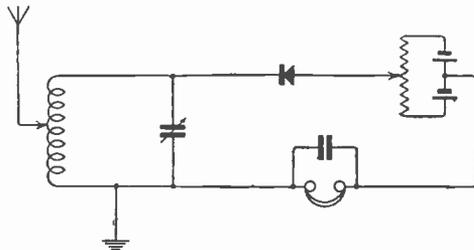

Fig. 3.
**"H.G."** (Sparkhill) asks (1) What results, if any, he will get with certain gear. (2) For a diagram of connections. (3) For a suitable aerial.
(1) You should get fair results from any near station and should also get **FL** and **Poldhu**.
(2) See diagram Fig. 3.
(3) Aerial should be as high and long as possible. Results will be poor unless it is practically the P.M.G. maximum.